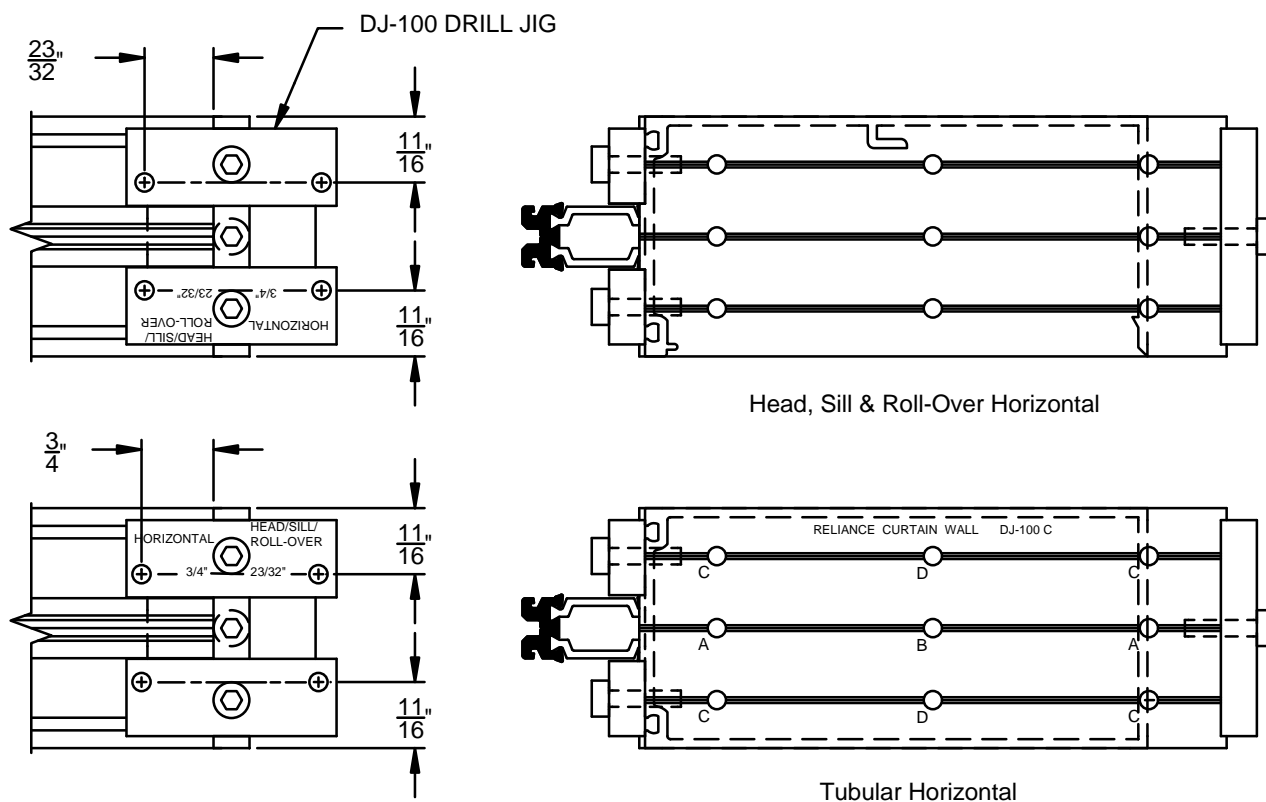

FIGURE 4
1.5 Fabricate ends of horizontal members for shear block screws using DJ-100 drill jig. SEE FIGURE 4.